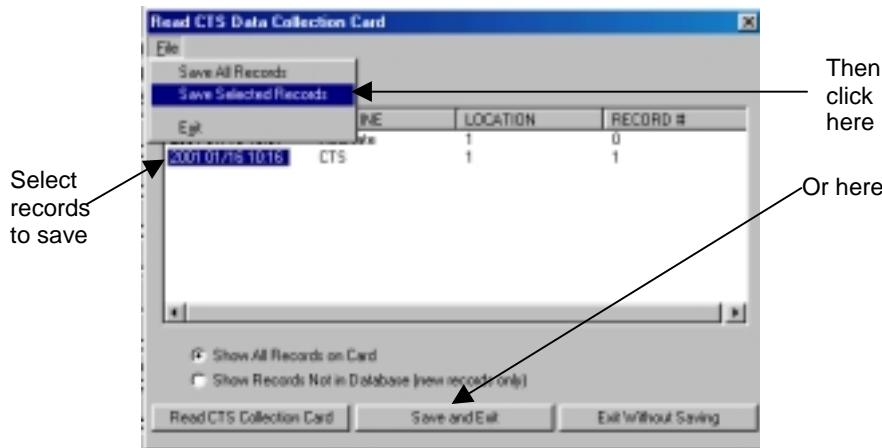

Figure 9.18 Saving the Collection Records
4. The Read CTS Data Collection Card window will open and list all the CTS data collections on the card. Select which records to save. Select the Save Selected Records from the File drop-down menu or click the Save and Exit button to save all records (Figure 9.18).